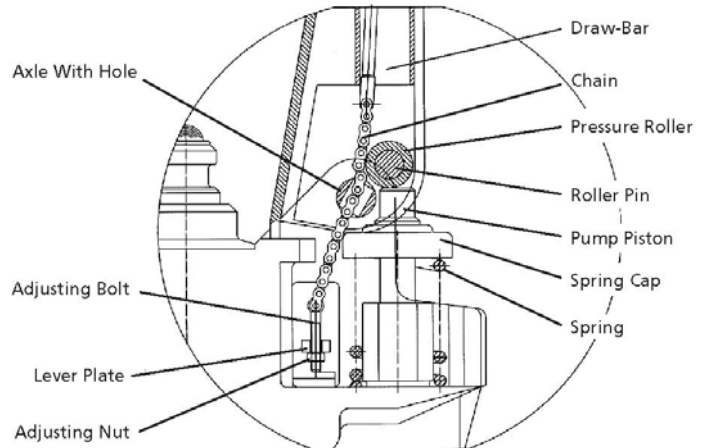

Fig. 7: Side view
b) Set the control lever of the handle to the 'LOWER' position, then pass the adjusting nut, adjusting bolt through the hole of the axle with your hand (Fig. 7).